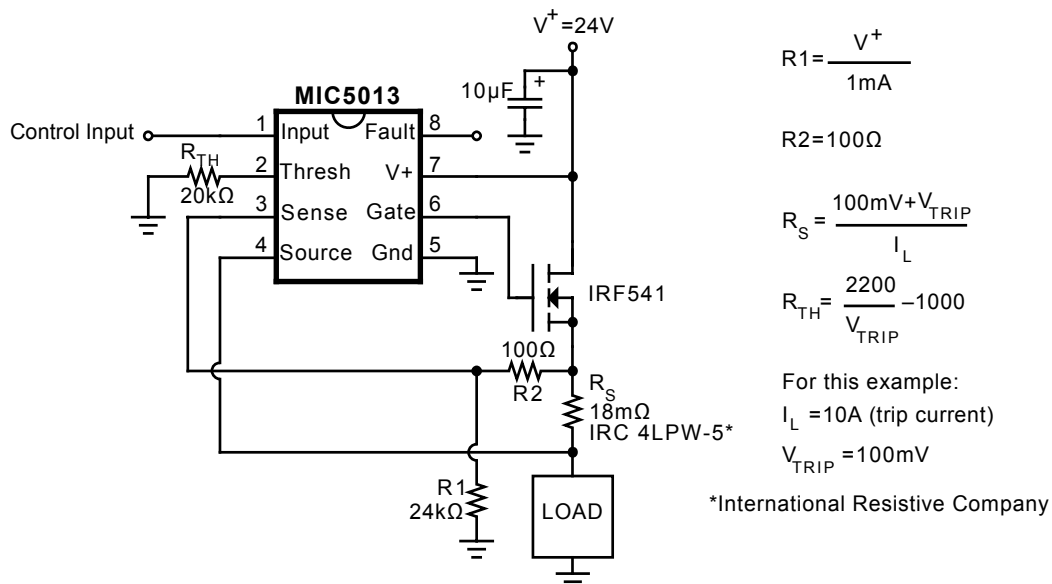

Figure 3. High-Side Driver with Current Shunt
**High-Side Driver with Current Shunt** (Figure 3). The comparator input pins (source and sense) float with the current sensing resistor ( $R_S$ ) on top of the load. R1 and R2 add a small, additional potential to  $V_{TRIP}$  to prevent false-triggering of the over-current shutdown circuit with open or inductive loads. R1 is sized for a current flow of 1mA, while R2 contributes a drop of 100mV. The shunt voltage should be 200 to 500mV at the trip point. The example of Figure 3 gives a 10A trip current when the output is near supply. The trip point is somewhat reduced when the output is at ground as the voltage drop across R1 (and therefore R2) is zero.